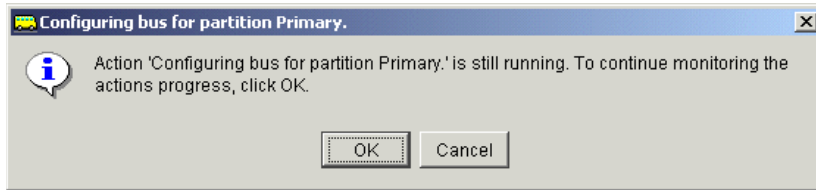

Figure 8-22 Configuring bus for primary partition display
4. You may receive a message like the one shown in Figure 8-22. This message appears because you have changed the bus to shared and the background task is still running. Click **OK** to continue.